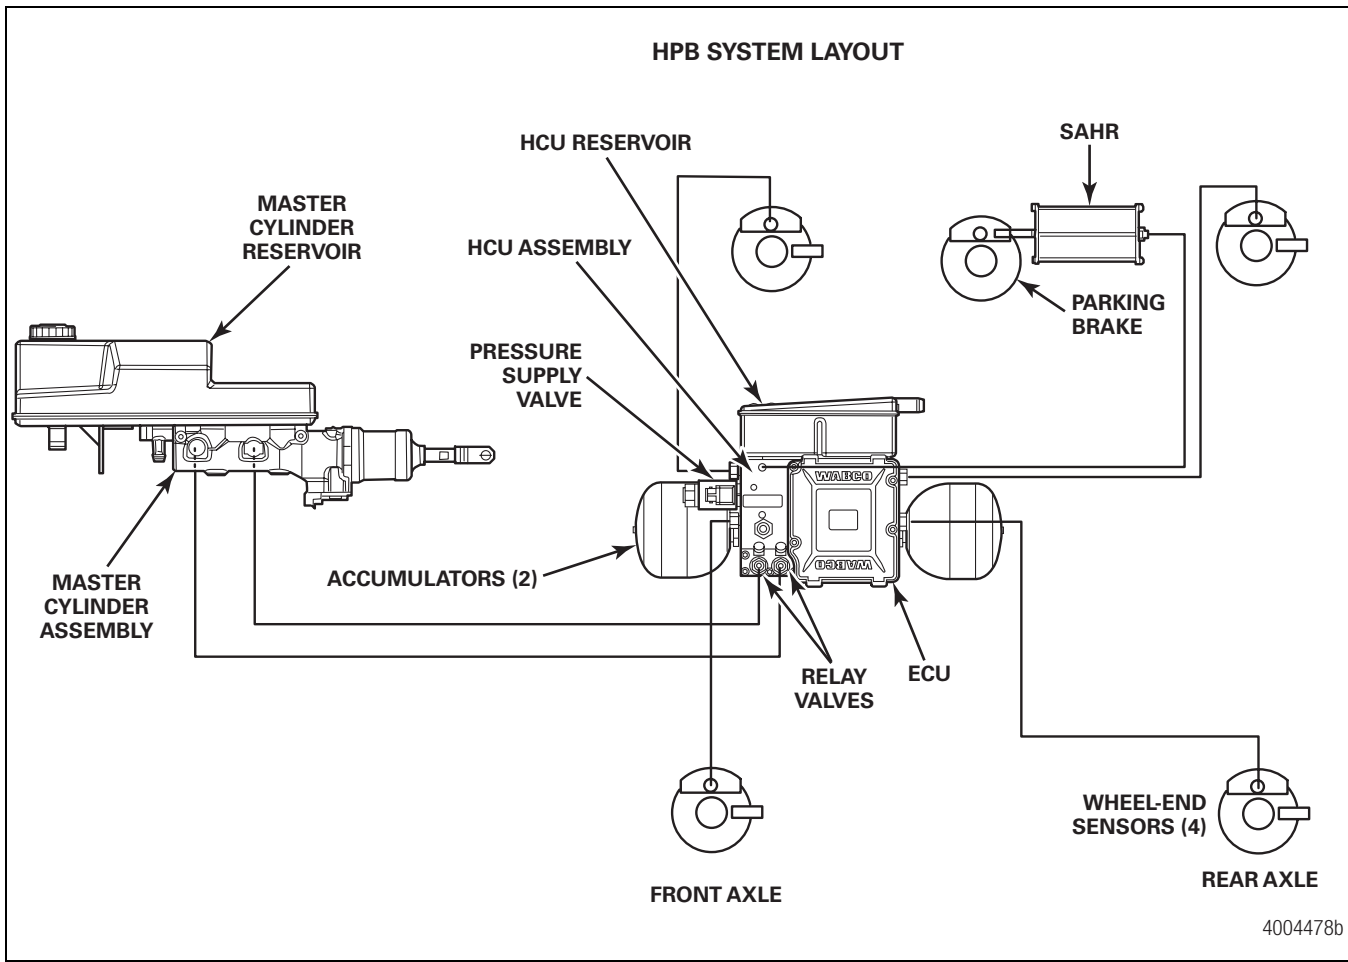

Figure 16
13. Repeat the bleed procedures for the second relay valve bleeder. Continue bleeding the system with the calipers (order right rear, left rear, right front and left front), and then the parking brake SAHR. Refer to the Maintenance Manual MM-0401 for complete bleed procedures. Figure 16.